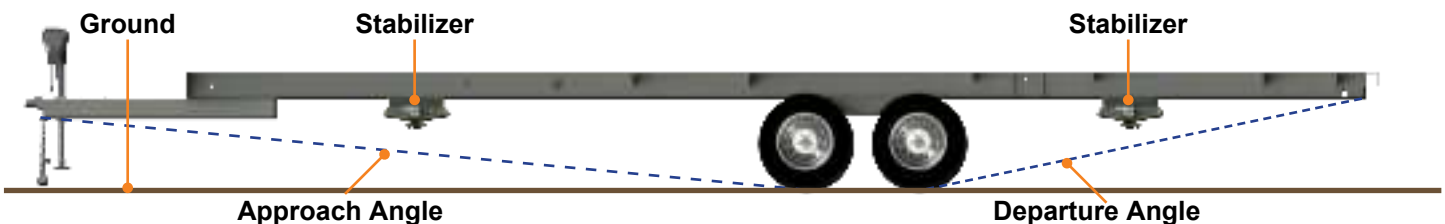

Fig.16
2. To measure approach and departure angle, run a string line from the meeting point of the tire and ground up at an angle to the lowest point on the front and rear of the trailer. These string lines are shown as dotted lines (Fig. 16).